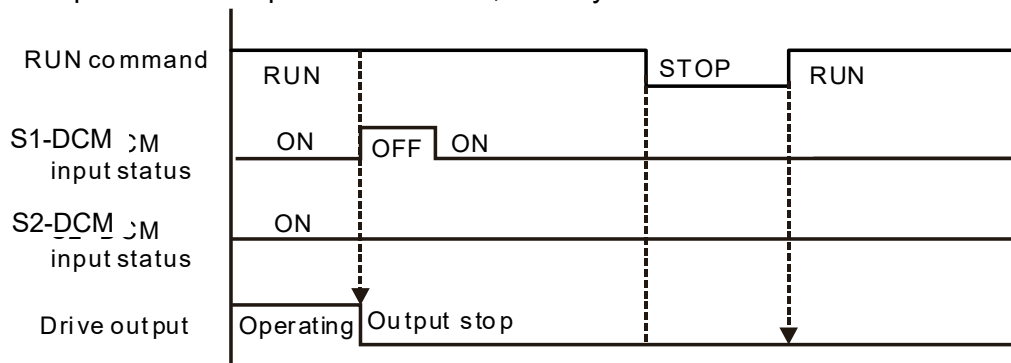

Figure 8
As shown in Figure 8: When S1-DCM is OFF during operation (STO function is required) and S2-DCM is ON (STO function is not required), the drive will stop outputting and keypad will show STL1 error. However, STL1 error cannot be reset even if the S1 status is restored (ON) regardless of the parameter setting. Turn the power on after power off to reset, thereby the drive can restore to normal standby state.